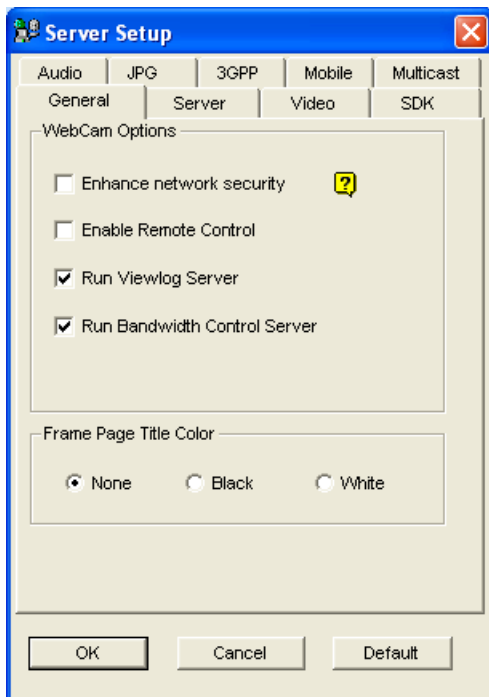

Figure 8-4
- **RPB port:** This port is used for remote playback feature. The default value is 5511. For this feature to work, the **Run ViewLog Server** option (Figure 8-4) must be selected too.